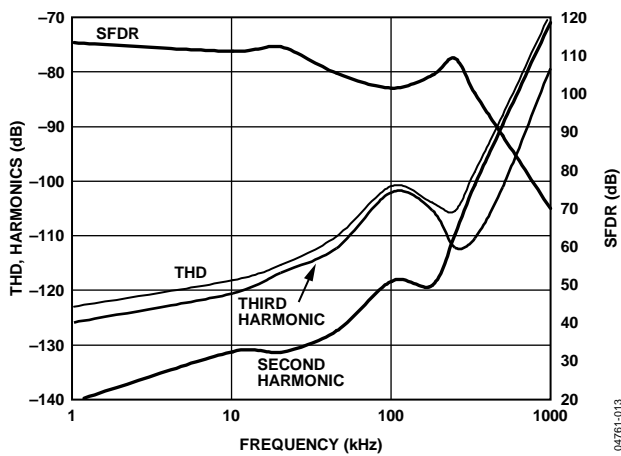

Figure 14. THD, Harmonics, and SFDR vs. Frequency
- The driver needs to have a THD performance suitable to that of the AD7641. Figure 14 gives the THD vs. frequency that the driver should exceed.